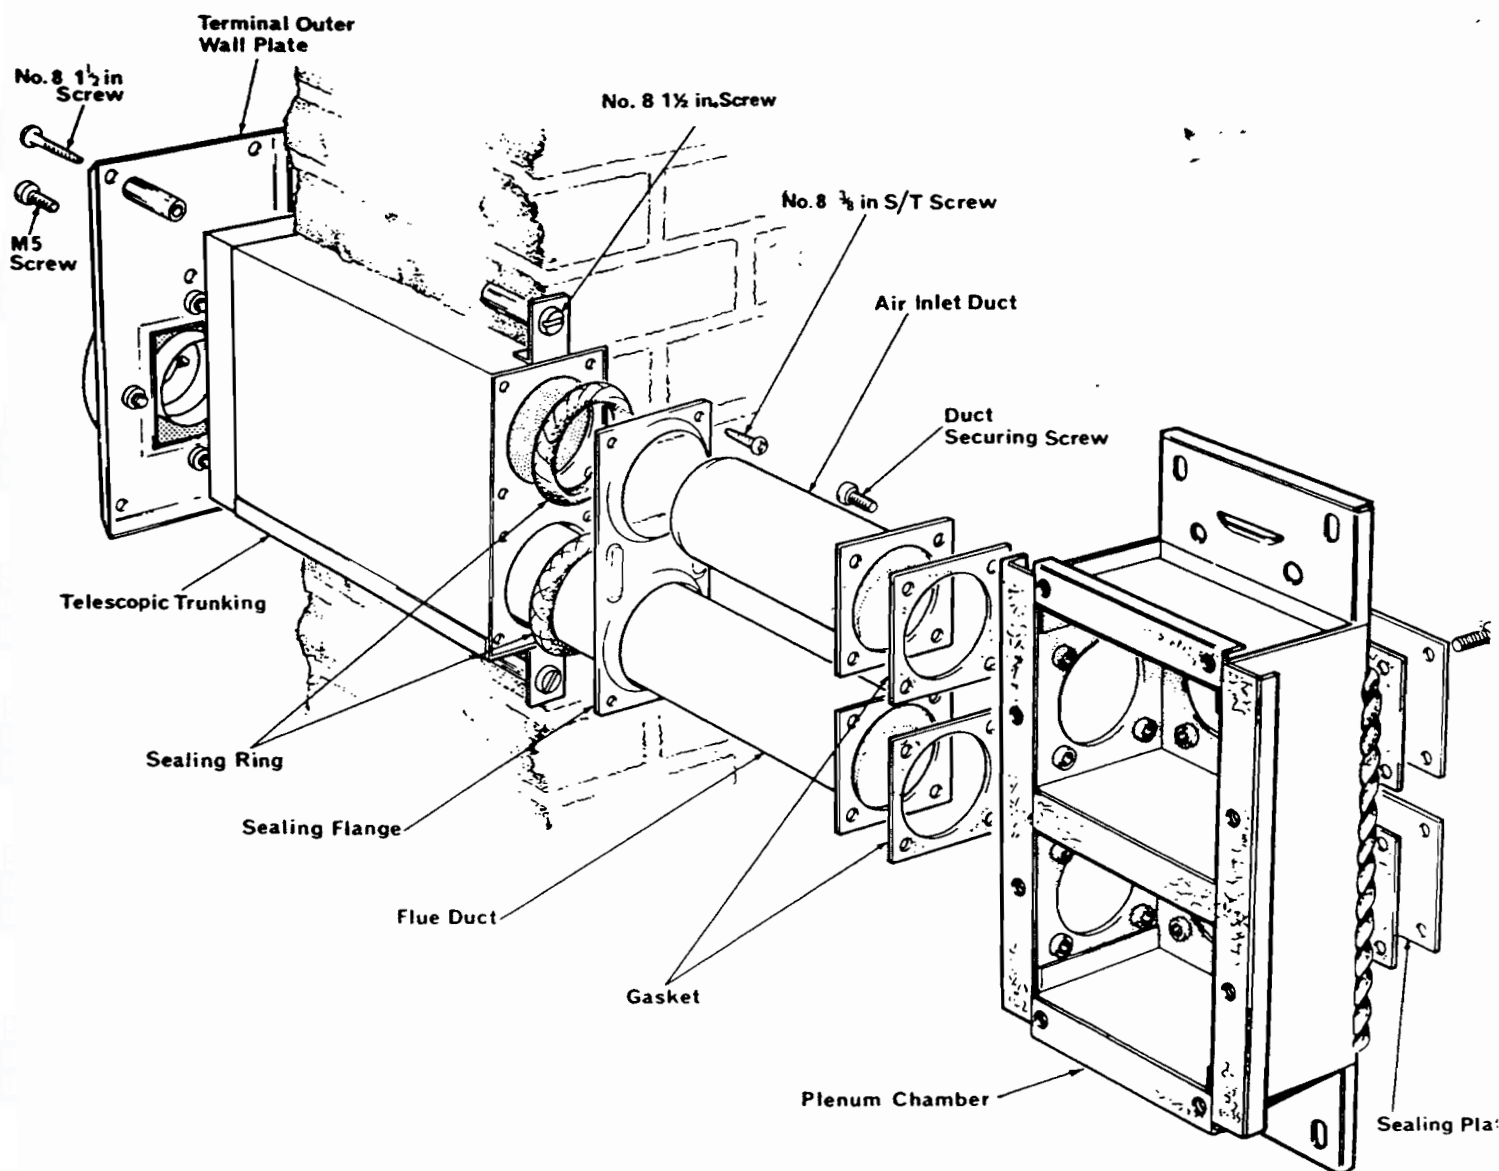

Fig. 7 ARRANGEMENT OF NETAHEAT 16/22 DUCTS
- (13) Remove the flue outlet grille from the terminal, then seal the gap between the outlet duct and the terminal with the sealing strip supplied.
- (14) Refit the outlet grille to the terminal so that it will direct the flue gases sideways or downwards away from any obstruction, window, doorway, footpath or plastic pipe.
B. Potterton Netaheat 16-22 only - See Fig. 7
- (1) The plenum chamber has two connections for the fresh air and flue ducts, one to one side and the other to the rear. One of these connections is blanked off with two sealing plates and gaskets and depending on the direction the ducts are to be connected to the boiler, these should be re-positioned by the installer if necessary. The single side connection can be used either for a left or right-hand duct arrangement, simply by rotating the plenum chamber to the required position. With a rear outlet, the smaller opening in the plenum chamber (air duct) must be positioned uppermost.
- (2) Fit the inlet and outlet duct assembly to the plenum chamber using the eight screws (Accessories Card Item C) and interposing the two gaskets. Ensure that the short air duct is positioned uppermost.
- (3) Temporarily secure the plenum chamber to the wall using the four 2in. No.12 screws, cup and flat washers (Accessories Card Item B), positioning the flue and fresh air ducts through the wall.
- (4) Mark off the lower flue duct at a point where it protrudes 32mm (1.3in.) from the outside wall of the building.
- (5) The upper air duct is already sized to suit wall thicknesses between 230mm and 380mm (9 to 15in.) and will only need shortening, if the wall is less than 230mm (9in.) thick. In this instance, cut off the nozzle end of the upper duct so that not less than 25mm (1in.) and not more than 50mm (2in.) protrudes inside the wall.
- (6) Remove the plenum chamber, then cut the duct(s) to size, removing all burrs and taking care not to distort the circularity of the duct(s).
- (7) Fit the telescopic trunking inside the wall and secure it to the inside face of the wall with two 1½in. No.8 screws, washers and wallplugs (Accessories Card Item D).